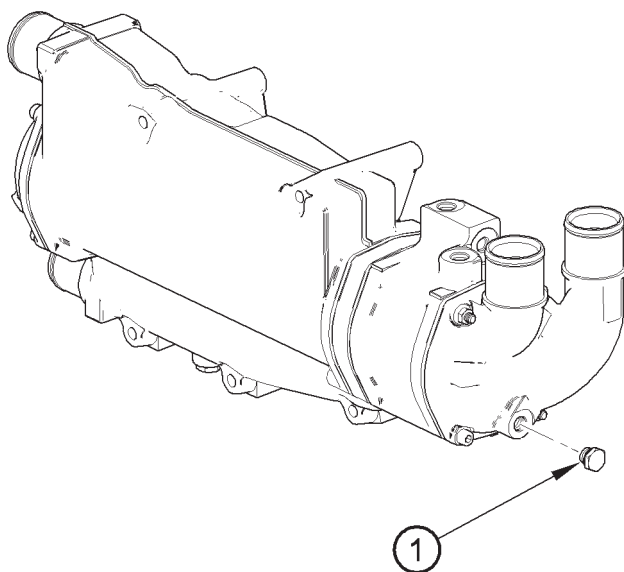

Figure 5
2. Remove the drain plug (figure 5 item 1), from the gearbox oil cooler. Ensure that the drain hole is not restricted.